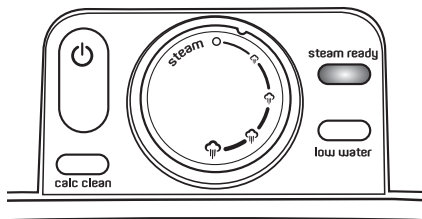

Figure 3
4. Select the desired steam level by turning the Steam Rate Dial to the desired setting (as shown in Fig 3).